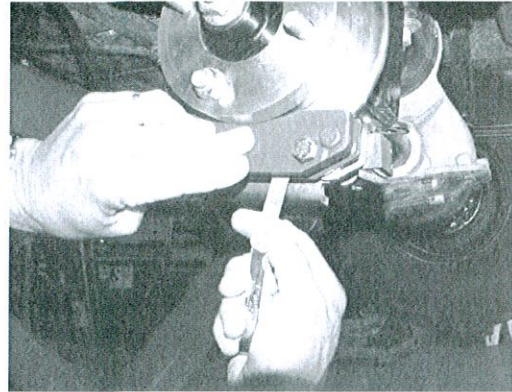

Fig. R11 - Check pad clearance of both wheels at the same time.
- a. Insert feeler gauge between back of rotor and inside brake pad in the center of the pad. (See Fig. R11)